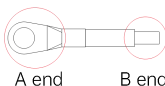

Fig. 5 Grounding terminal connection
(5) Grounding: MV810-PNET03 must be grounded during wiring as shown in Fig. 5.